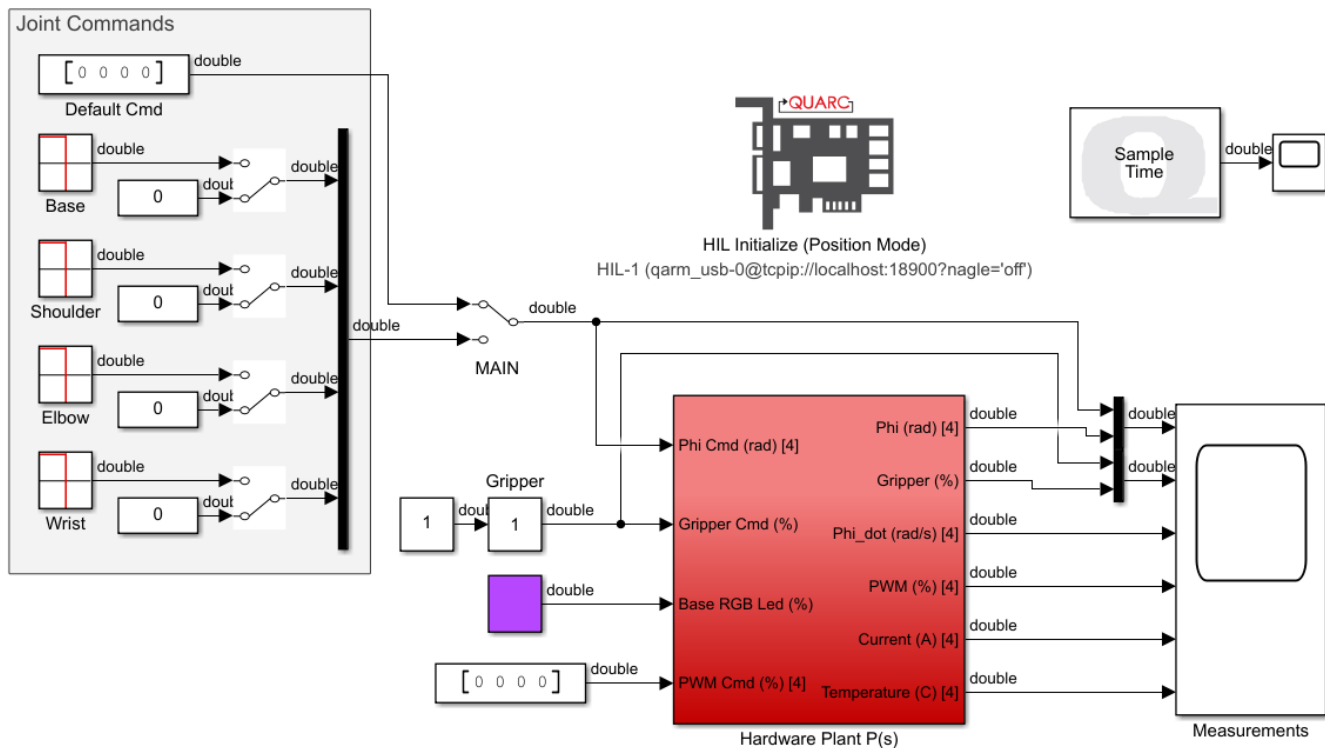

Figure 1: Simulink model that controls the QArm in position mode
1. Open the Simulink model BasicIO\\_position\\_mode.slx (Figure 1). You will use the model to apply position commands to the base, shoulder, elbow, and wrist joints, in addition to controlling the gripper. The model also acquires and displays a variety of sensor feedback.